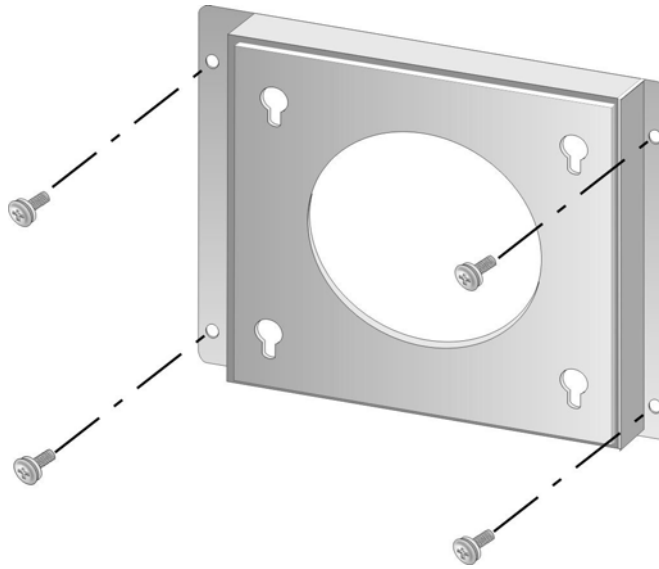

Figure 4-19: Wall-mounting Bracket
Step 5: Secure the mounting-bracket to the wall by inserting the retention screws into the four pilot holes and tightening them (**Figure 4-19**).